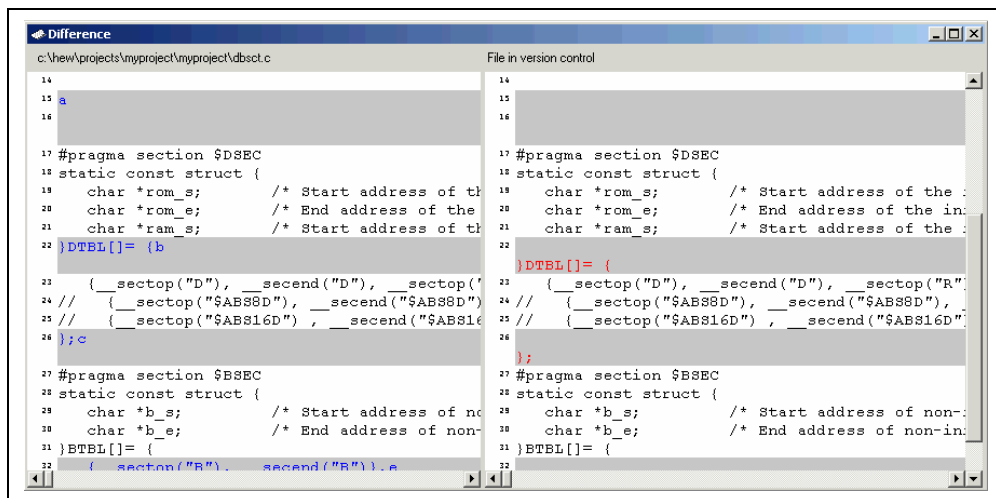

Figure 11.1: Difference view
The difference window can be invoked two ways. The first is from the show differences menu item on the tools menu. The second is via the workspace window pop-up with the same name. When using the pop-up menu the current file selection is automatically added to the edit box. Clicking the show differences menu item displays the dialog shown below in figure 11.1.
7. The difference view is displayed as shown in figure 11.1.